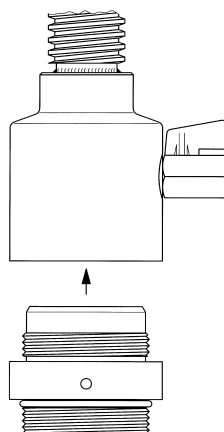

Figure 37
- Screw in the sandwich valve adapter to the drilling machine dome. See *Figure 37*.